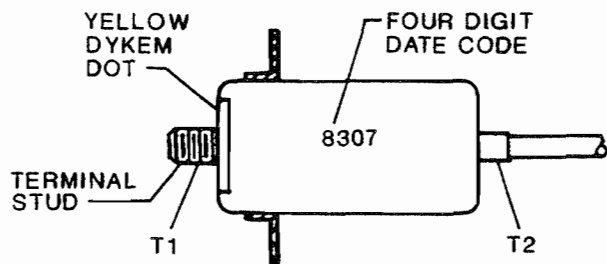

Figure 705.
Check mounting brackets of capacitor (10) for cracks or looseness. Check capacitor lead for damaged insulation and loose terminal connection. If any damage is found, discard capacitor. Test capacitor for series resistance, leakage, and capacitance using 11-1767-3 Condenser Tester or equivalent. Capacitance must be 0.30 to 0.45 microfarads. Series resistance and leakage must be within their respective acceptable ranges. (Series resistance shall be less than 1.0 ohm. Leakage shall be less than 8.0 milliamps at 400 vdc. In addition, if capacitor does not display yellow dykem dot or four digit date code 8307 or higher as shown in Figure 705, check for grounding resistance as follows:
- B. Maximum resistance shall be 0.1 milliohm. Capacitors with greater resistance shall be discarded. Identify serviceable capacitors with a dot of yellow dykem as shown in Figure 705.